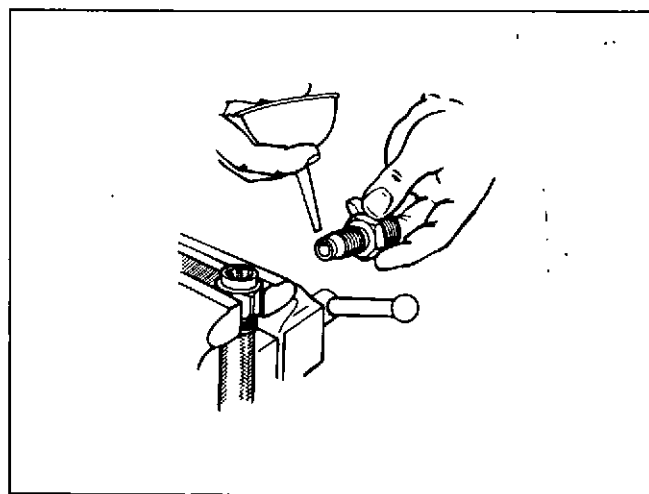

Fig. 7-15 (N10738). Lubricate The Nipple.
6. Put the socket and hose assembly in a vise. Make sure the socket is clamped in the vise. Apply lubrication to the nipple and the inside of the hose, Fig. 7-15.